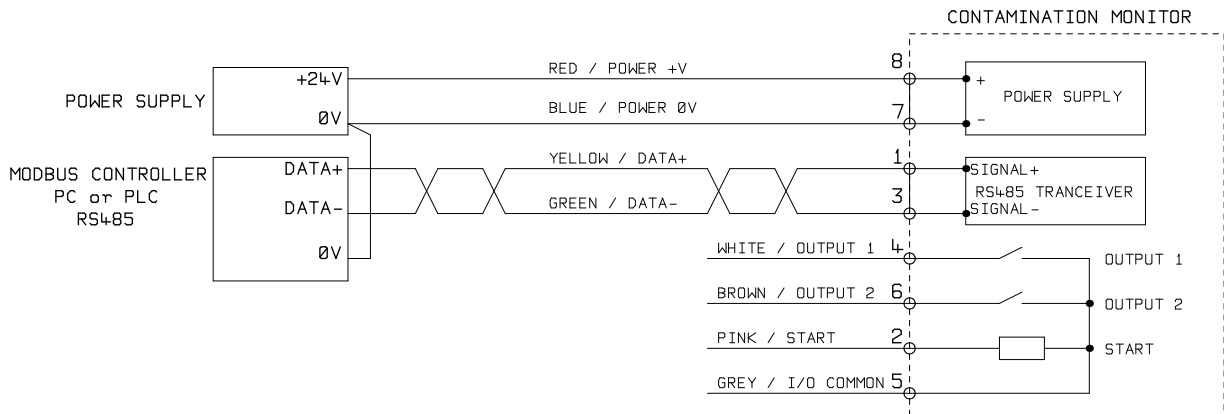

Figure 1 ICM Electrical Connection
- Connect 24V DC power supply. See Figure 1.
The ICM requires a DC power supply and the two Modbus RS485 signals, as shown in Figure 1. The numbers shown are the pin numbers of the circular connector that plugs into the ICM.